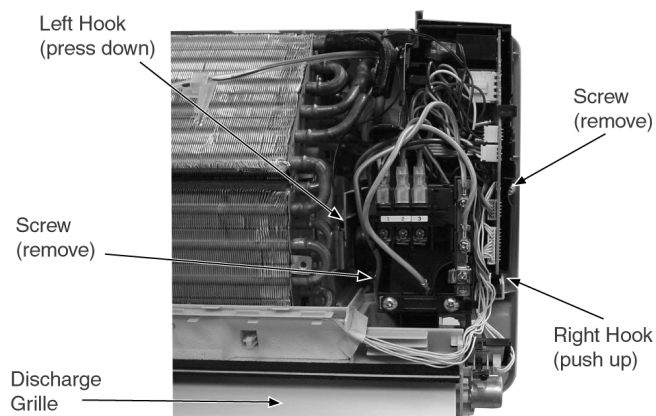

Fig. 5
- Pulling out the Drain Hose from outlet to remove the Discharge Grille. (Fig. 5)
- Removing the right and left screws. (Fig. 5)
- Then remove the Control Board by pressing down the hook at the left and pushing up the right hook. (Fig. 5)